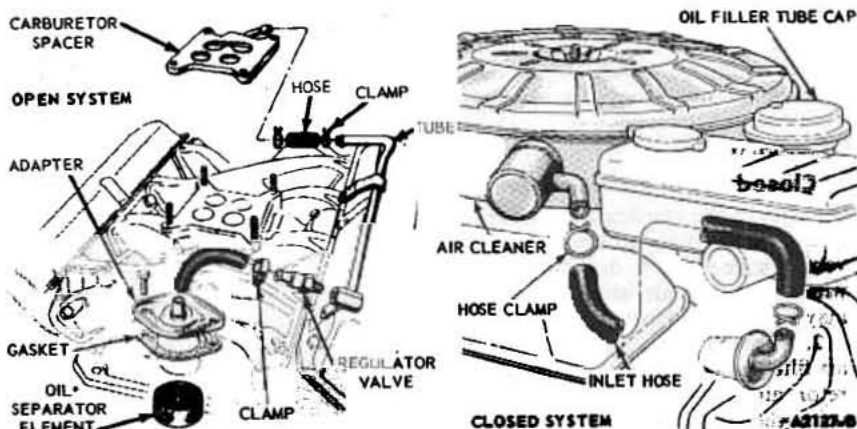

Fig. 10—Positive Crankcase Ventilation System—Lincoln
2. Loosen the clamp securing the hose to the regulator valve. Remove the hose and clamp. Remove the ventillator valve from the ventilation tube fitting (Fig. 10) and discard it.
1. Install the oil separator element in the valve push rod chamber cover (Fig. 10). Make certain the screen is positioned snugly around the edges of the opening.